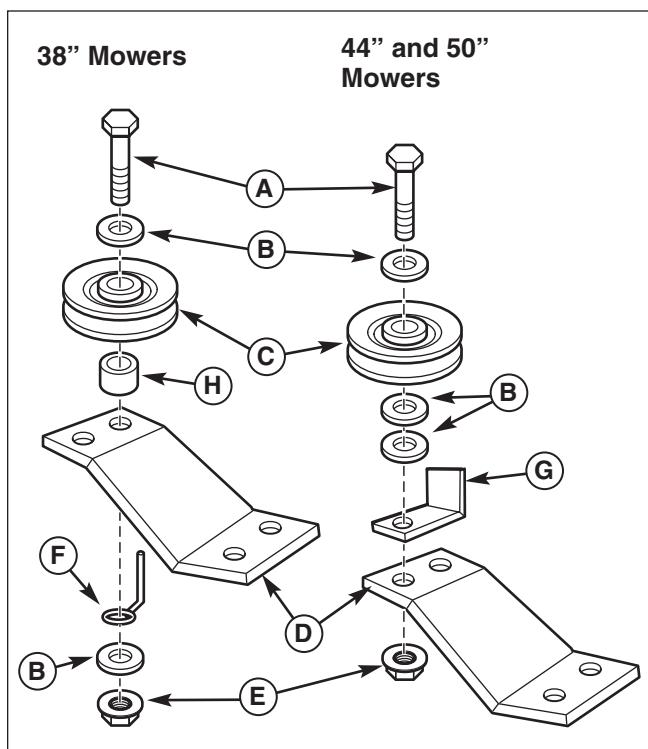

Figure 8. Idler Assembly Stack-Up
2. Check that the idler assembly stack-up is correct for your application See Figure 8. If not follow the descriptions to make the corrections.